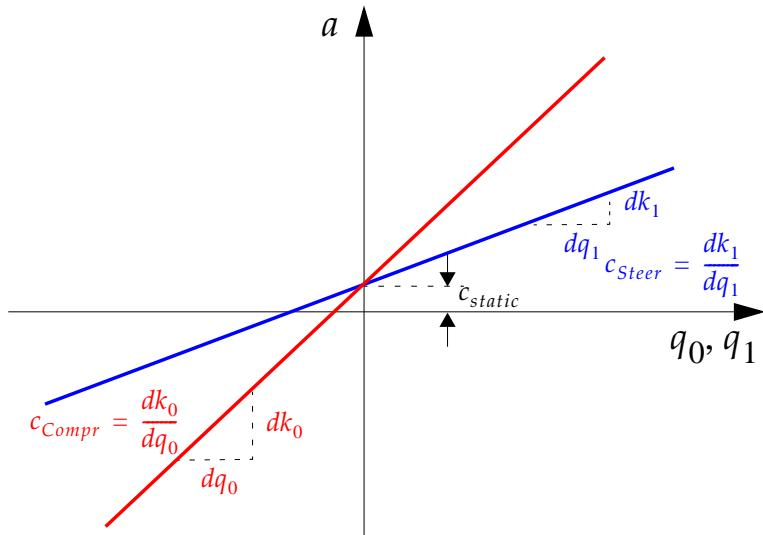

Figure 5.20: Definition of kinematics coefficients for the linear kinematics models
**tx, ty, tz (m)** Independently on the number of degree of freedoms (DOFs), the following 10 variables need to be parameterized as they are used by the model to define the wheel center movement. These parameters have a static value ( $c_{\text{static}}$  in Figure 5.20) and a coefficient describing the change according to the wheel travel and possibly according to the steering rack movement and/or according to the opposite wheel travel (depending on the DOF).